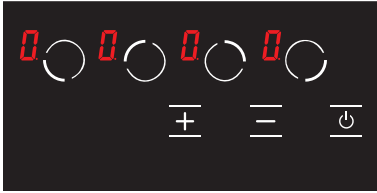

Figure 19
- The **0** icon is displayed on all displays. (see Fig. 19) The **0** and **H** icons are displayed alternatively if any hob is hot.